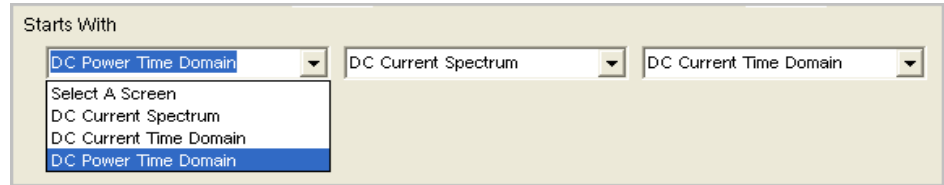

Figure 6-31: Starts With Section for EMAX Auto Test for DC Assets
12. Select the Starts With selections by highlighting the desired display on the drop down list. The DC Starts With section is shown in Figure 6-31.